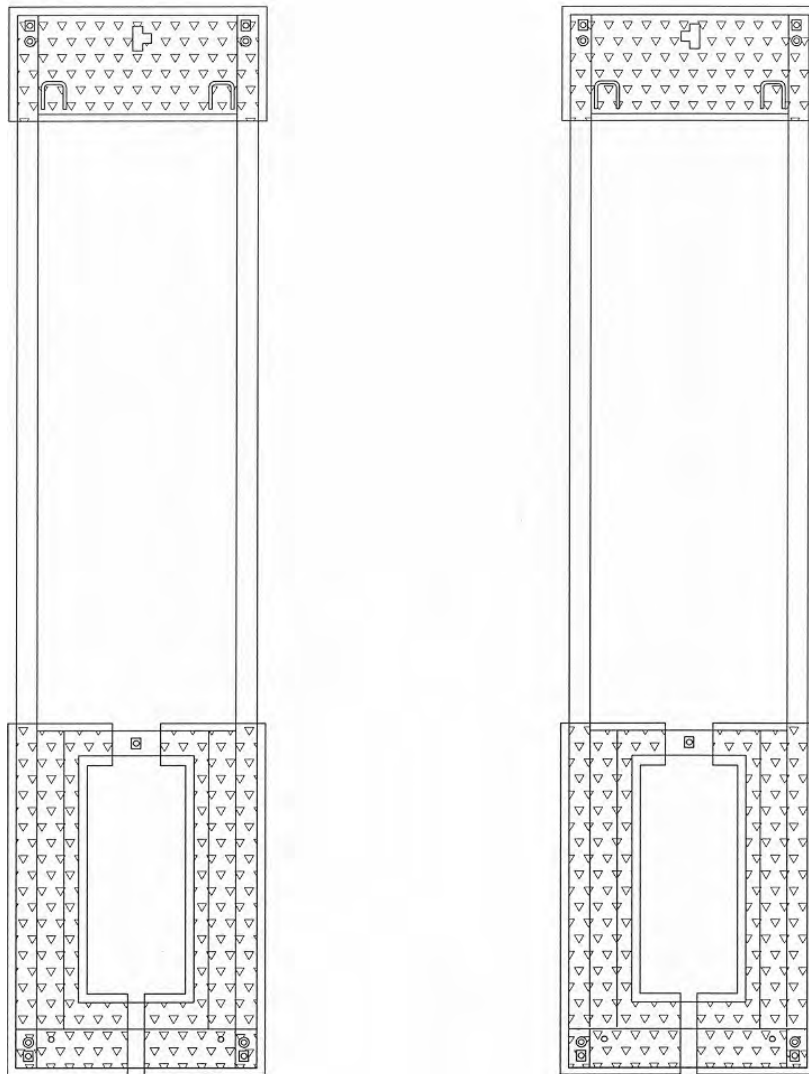

Figure 23 - Grouting Locations
1. Pour grouting under the load area of each base frame as shown in **Figure 23**. Ensure that grout is evenly distributed under the frame and finish the edges with a 45 degree chamfer. Refer to specific grouting instructions on the package. Leave a drain area to allow any liquids to escape.